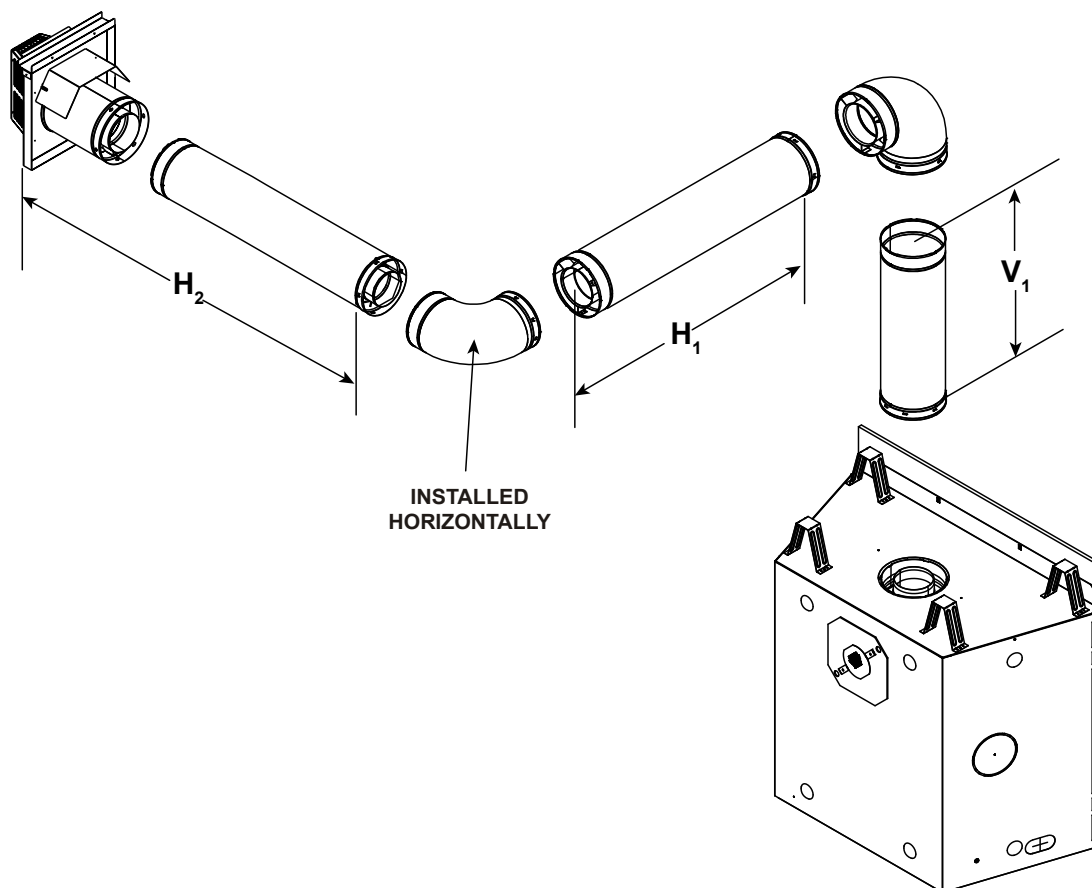

Figure 4.11
- A maximum of three 90° elbows (or six 45° elbows) may be used in any vent configuration. Some elbows may be installed horizontally. For example, see Figure 4.11.